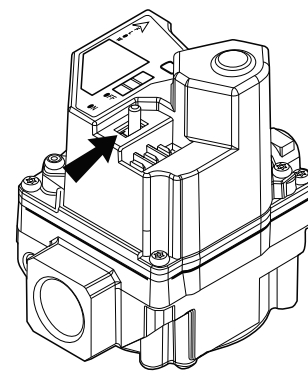

Fig. 17 — Gas Valve Switch - OFF
8. Move the switch on all gas valves to the “OFF” position. See Fig. 17 for example the valve in the off position.